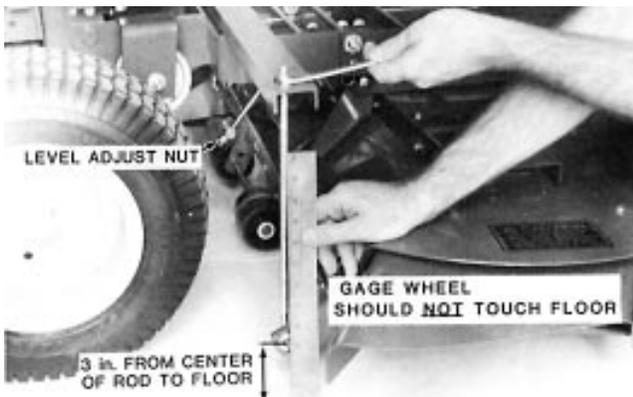

Figure 19
2. Tighten or loosen the nut on the top of each hanger rod until there are 3 inches from the center of each gage wheel to the ground (Fig. 19).